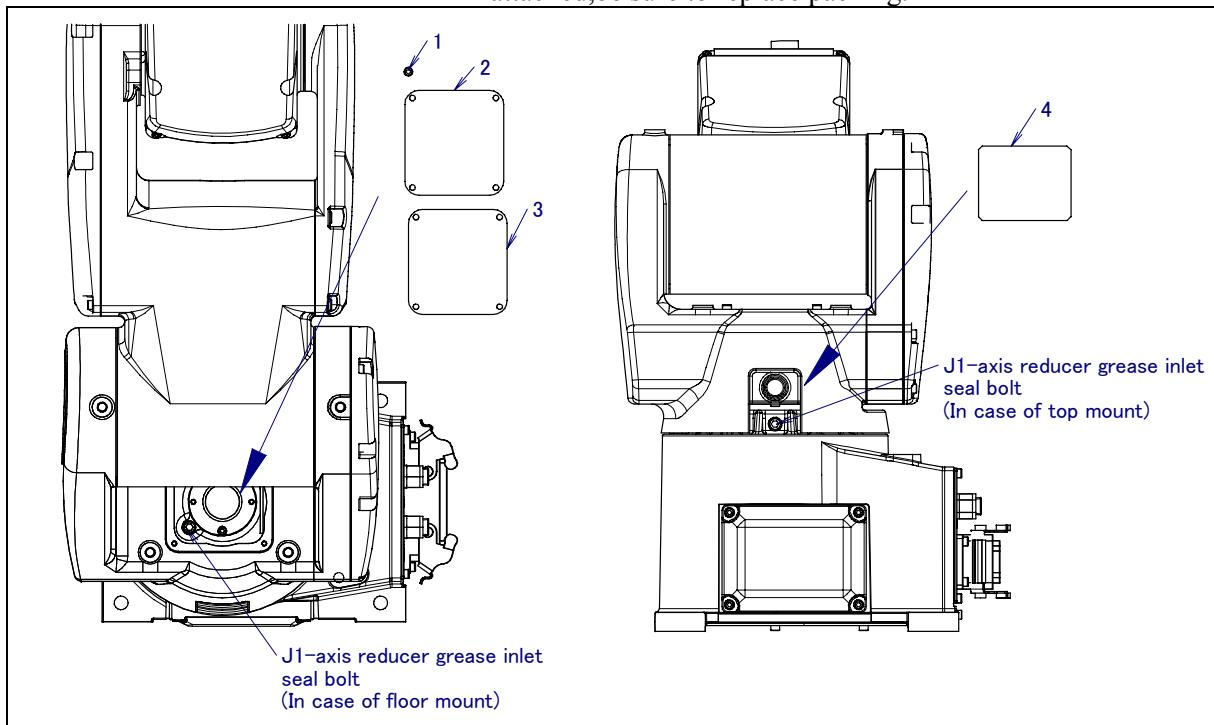

Fig. 2.2.1 Replacing grease of the J1-axis reducer
- 3 Remove the bolt/seal bolt (1) and cover U (2). In case of packing is attached, remove packing (3), too.
- 4 Remove seal bolt of two places refer to fig.2.2.1.